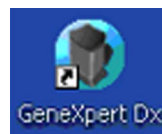

Figure 2-13. GeneXpert Dx System Shortcut Icon
5. The GeneXpert Dx software starts automatically on system startup. A GeneXpert Dx icon on the Windows desktop allows for manual software initiation. See Figure 2-13.